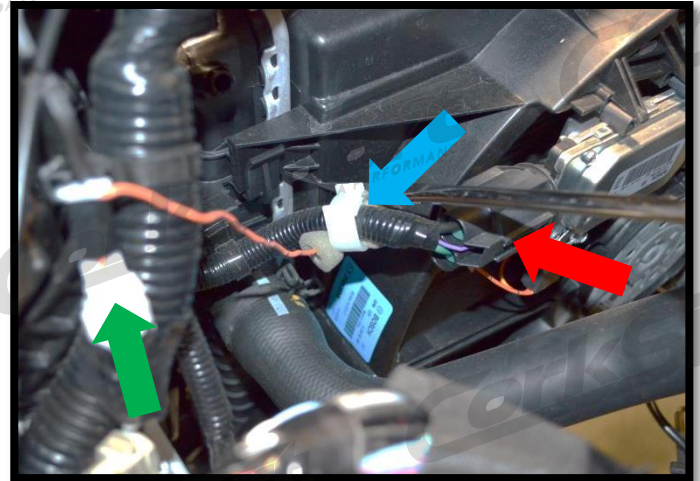

Figure 1g
h) Remove the wiring harness from the white clip located on the drivers side of the fan housing (Figure 1g).
i) Unplug the electrical connection to the fan control module (Figure 1g).
j) Unplug the white electrical connector (green arrow in Figure 1g).
h) Remove the wiring harness from the white clip (blue arrow) located on the drivers side of the fan housing (Figure 1g).
i) Unplug the electrical connection to the fan control module (red arrow in Figure 1g).